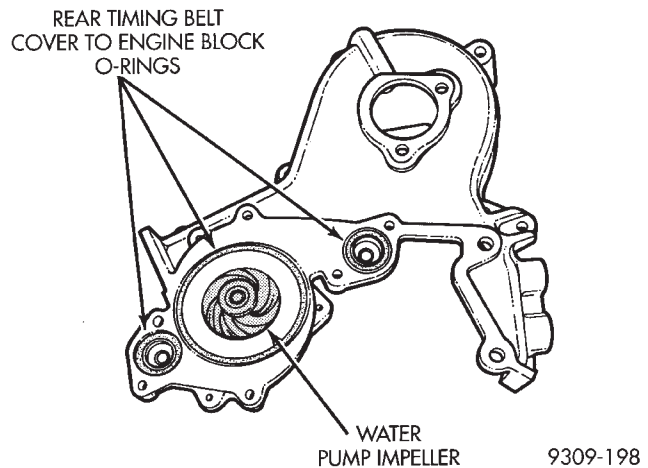

Fig. 37 Right Side Timing Belt Cover Water Pump O-Rings
- (6) The right side timing belt cover has O-rings located behind it for water pump passages (Fig. 37).
- (7) Remove cylinder head bolts and remove cylinder head.